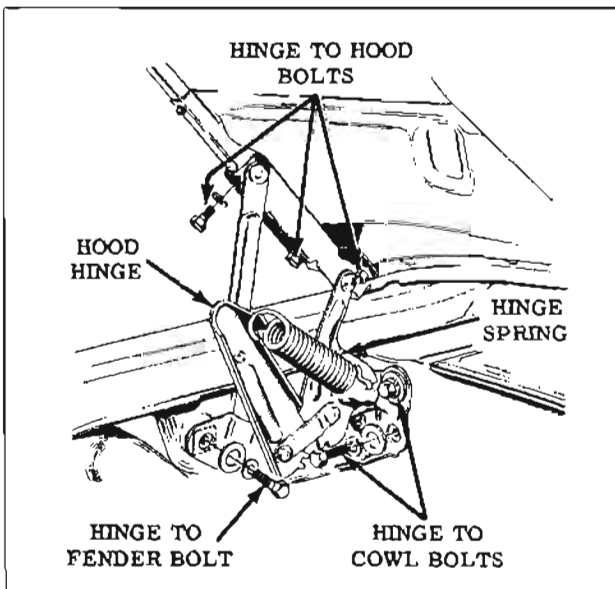

Fig. 12-5 Hood Hinge Assembly
each side of car. (Fig. 12-5) For fore or aft adjustment, loosen hood hinge to hood bolts.
3. Remove hinge to hood bolts on each side of hood. (Fig. 12-5)